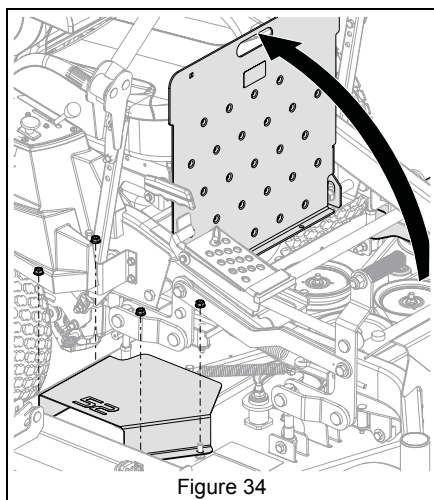

Figure 34
3. Remove hardware securing belt covers to deck and remove belt covers. See Figure 34.